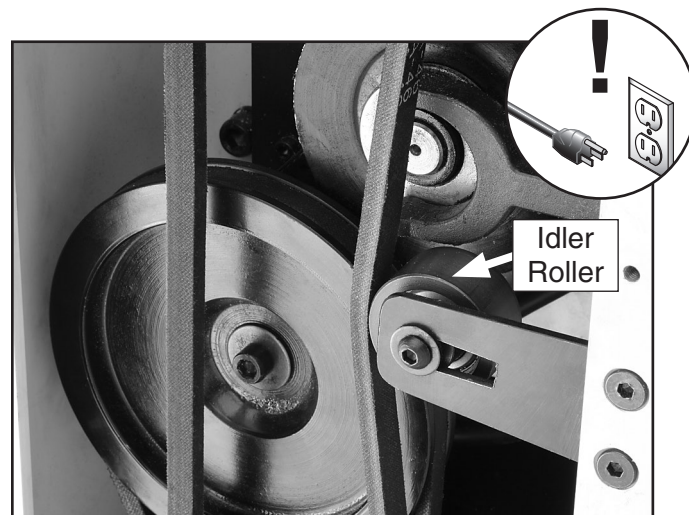

Figure 34. Sanding drum V-belt tension.
4. Tension the sanding drum V-belt by sliding the idler roller (**Figure 34**) into the V-belt until the belt is correctly tensioned, then replace the pulley cover.